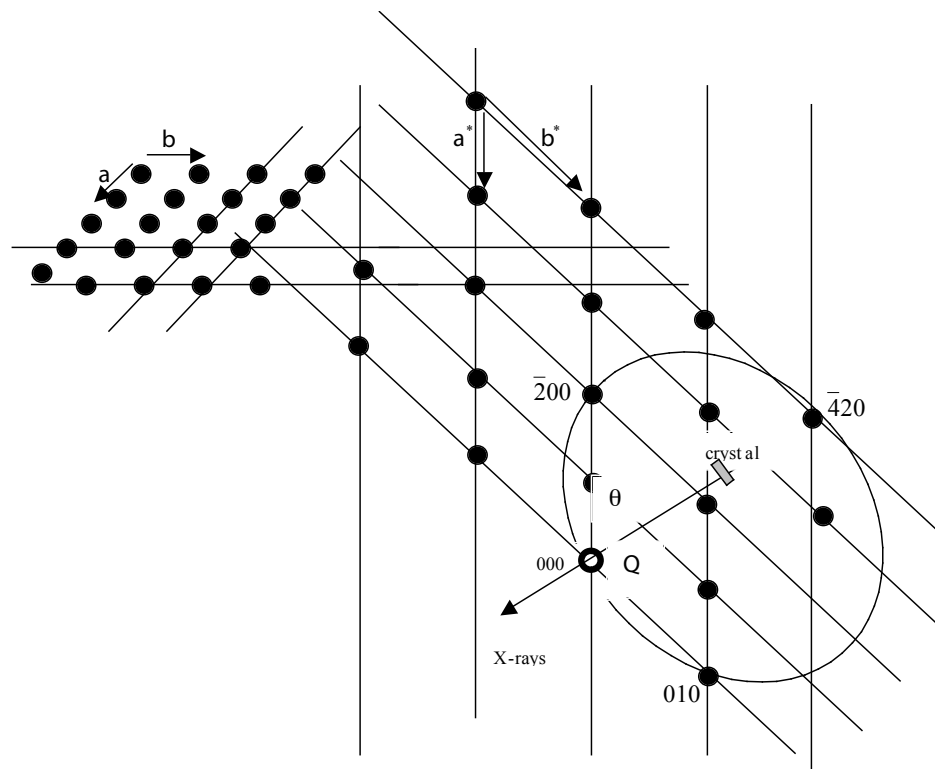

Figure 1.19: Construction of Ewald Sphere
1. Construct the reciprocal space from the real space as shown in Fig. 1.19.
4. Use Bragg's equation and calculate the glancing angle using the variables provided. Suppose the instruction is that, the reflection is taking place from the (010), the interplanal separation, d equals to the value of the lattice parameter b . If the reflection is from the (100) planes, then the value of d equals the value of the lattice parameter a .